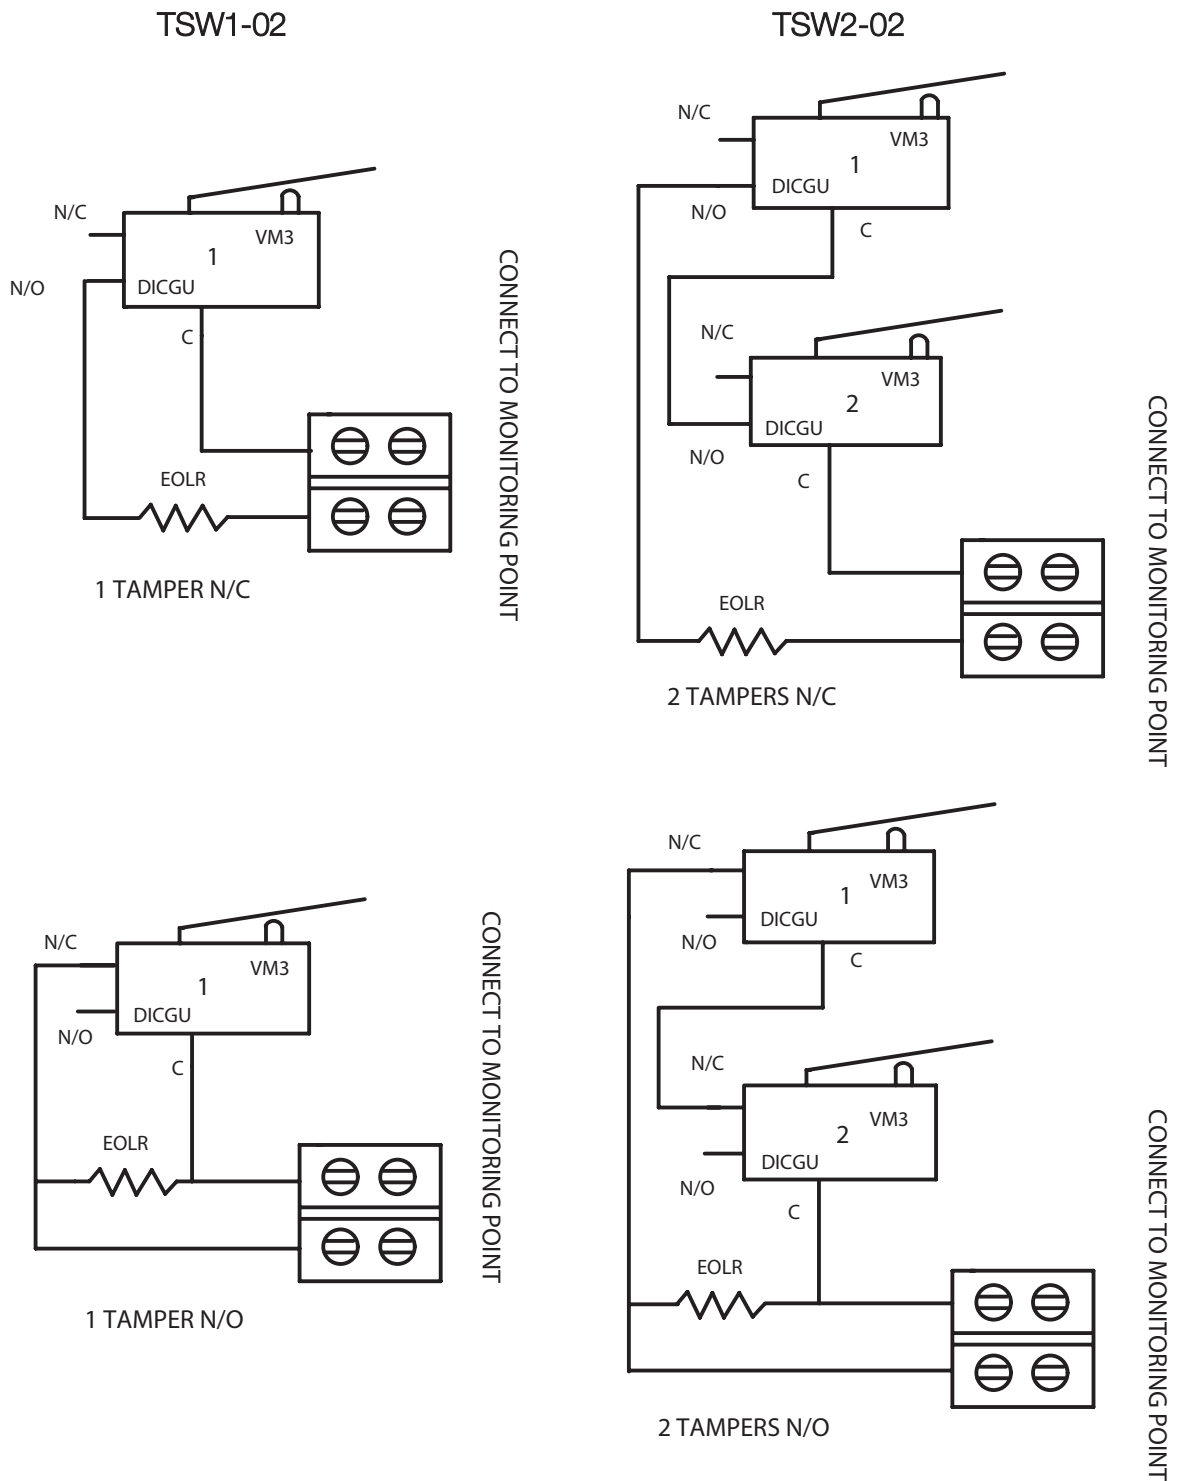

Fig. 3
- 11 If Tamper Switch is required use part # TSW1-02 or TSW2-02, see Fig 3.